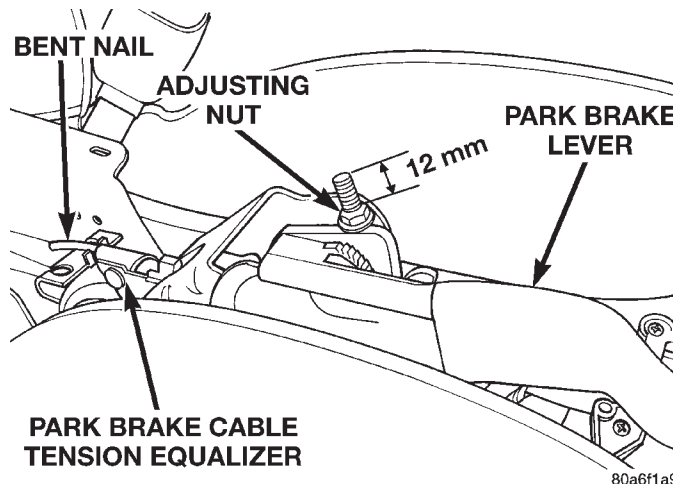

Fig. 194 Park Brake Lever Output Cable Adjustment
(13) Cable tension, for the parking brake system is to be correctly adjusted using the following steps.
- Tighten adjusting nut (Fig. 194) on park brake lever output cable until 12 millimeters of thread is out past top edge of adjustment nut (Fig. 194).
NOTE: Actuating the park brake lever to its fully applied position 1 time after tightening the adjustment nut will yield (stretch) the bent nail portion of the tension equalizer (Fig. 194) approximately 1/4 inch. This process will correctly set the park brake cable tension.